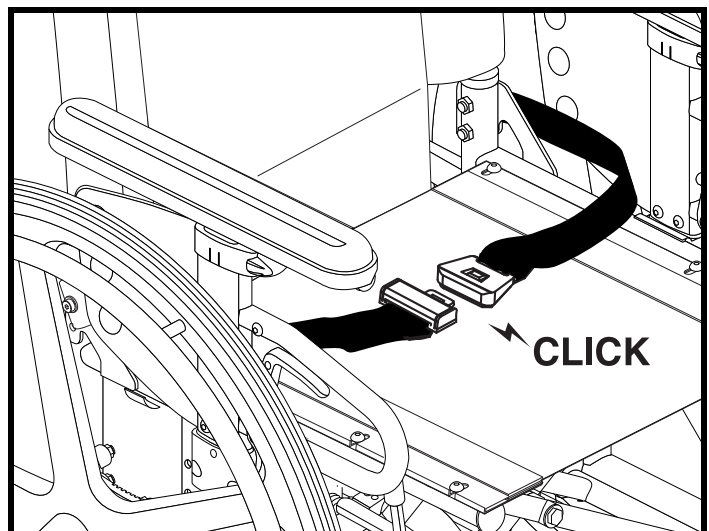

Figure 38. Positioning Belt Adjustment
1. Once seated, insert the metal tab on one side of the belt into the plastic housing on the opposite side until you hear a click. See figure 38.